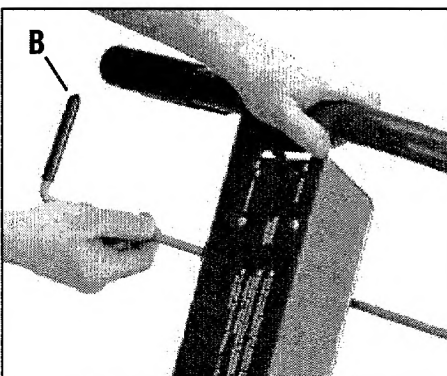

Figure 2-4: Remove Maneuvering Clutch Lever.
2. Remove the Maneuvering Clutch Lever (B, Figure 2-4) from the handlebars. Remove any rubber bands from the handlebars.